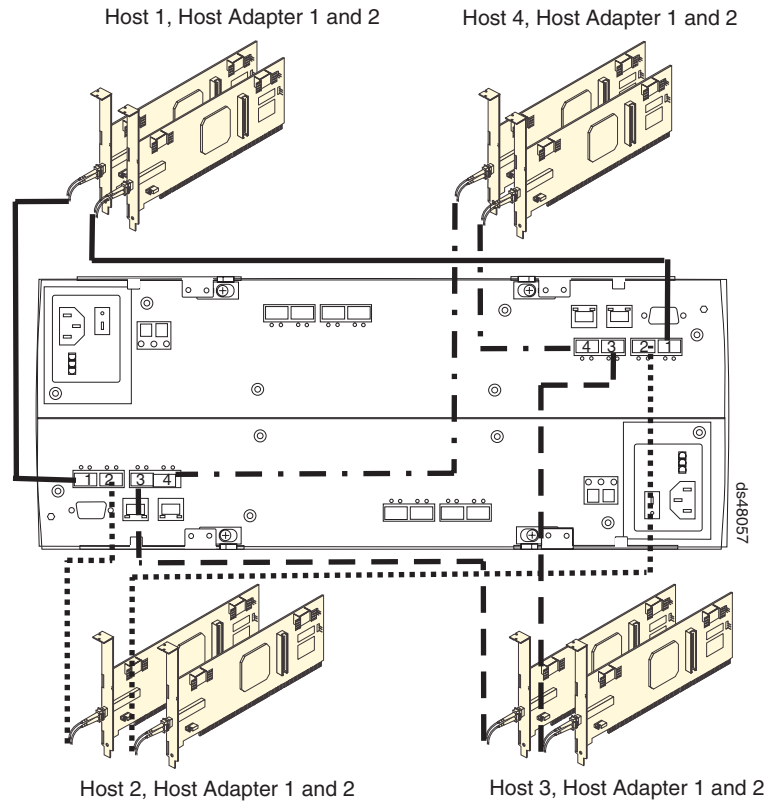

Figure 63. Cabling diagram for four redundant host connections
3. Repeat steps 1 on page 89 and 2 on page 89 for each additional redundant host connection. You can create a maximum of four redundant host connections, as shown in Figure 63 on page 91.
Note: Figure 63 on page 91 shows that the DS4800 host ports are connected to four sets of FC host bus adapters (HBAs). You can replace one or all of these sets of FC HBAs with FC switches as required.